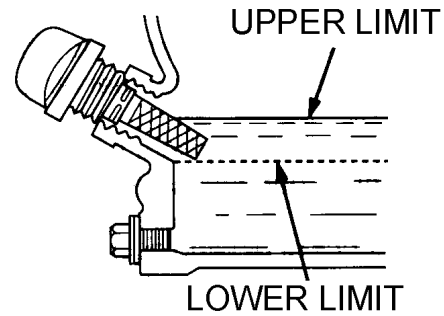

Figure 7. Engine Oil Dipstick(Oil Level)
4. If the oil level is low (Figure 7), fill to the edge of the oil filler hole with the recommended oil type (Table 4). Maximum oil capacity is 1.16 quarts (1.1 liters).